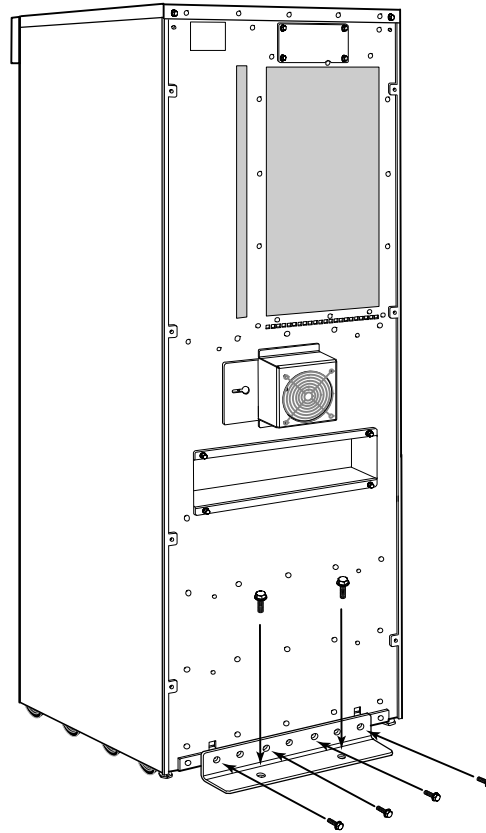

Figure 35. Permanent Mounting
2. Attach the rear shipping bracket to the bottom of the cabinet rear panel using the retained hardware from the shipping pallet (see Figure 35).